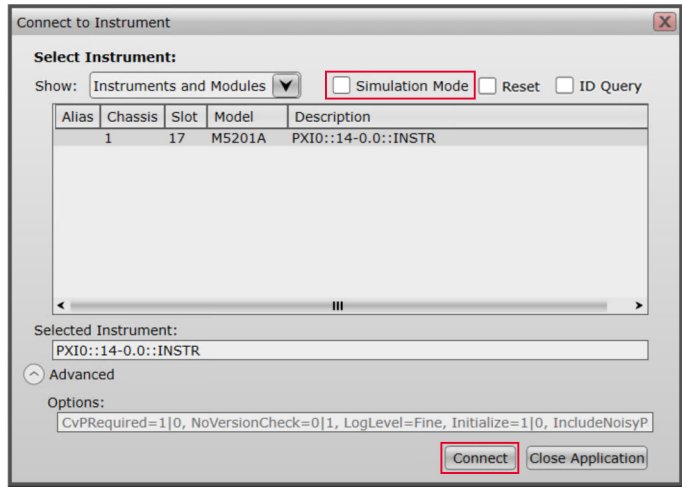

Figure 33 Connect to Instrument with “Simulation Mode” disabled
- ‘Simulation mode’ disabled—This is the active mode of SFP operation and is available when the **Simulation Mode** check box is manually cleared. The **Simulate** button is replaced with the **Connect** button on the **Connect to Instrument** window, as shown in Figure 33. In this mode, only the active modules are displayed along with the respective chassis number, slot number and VISA address.